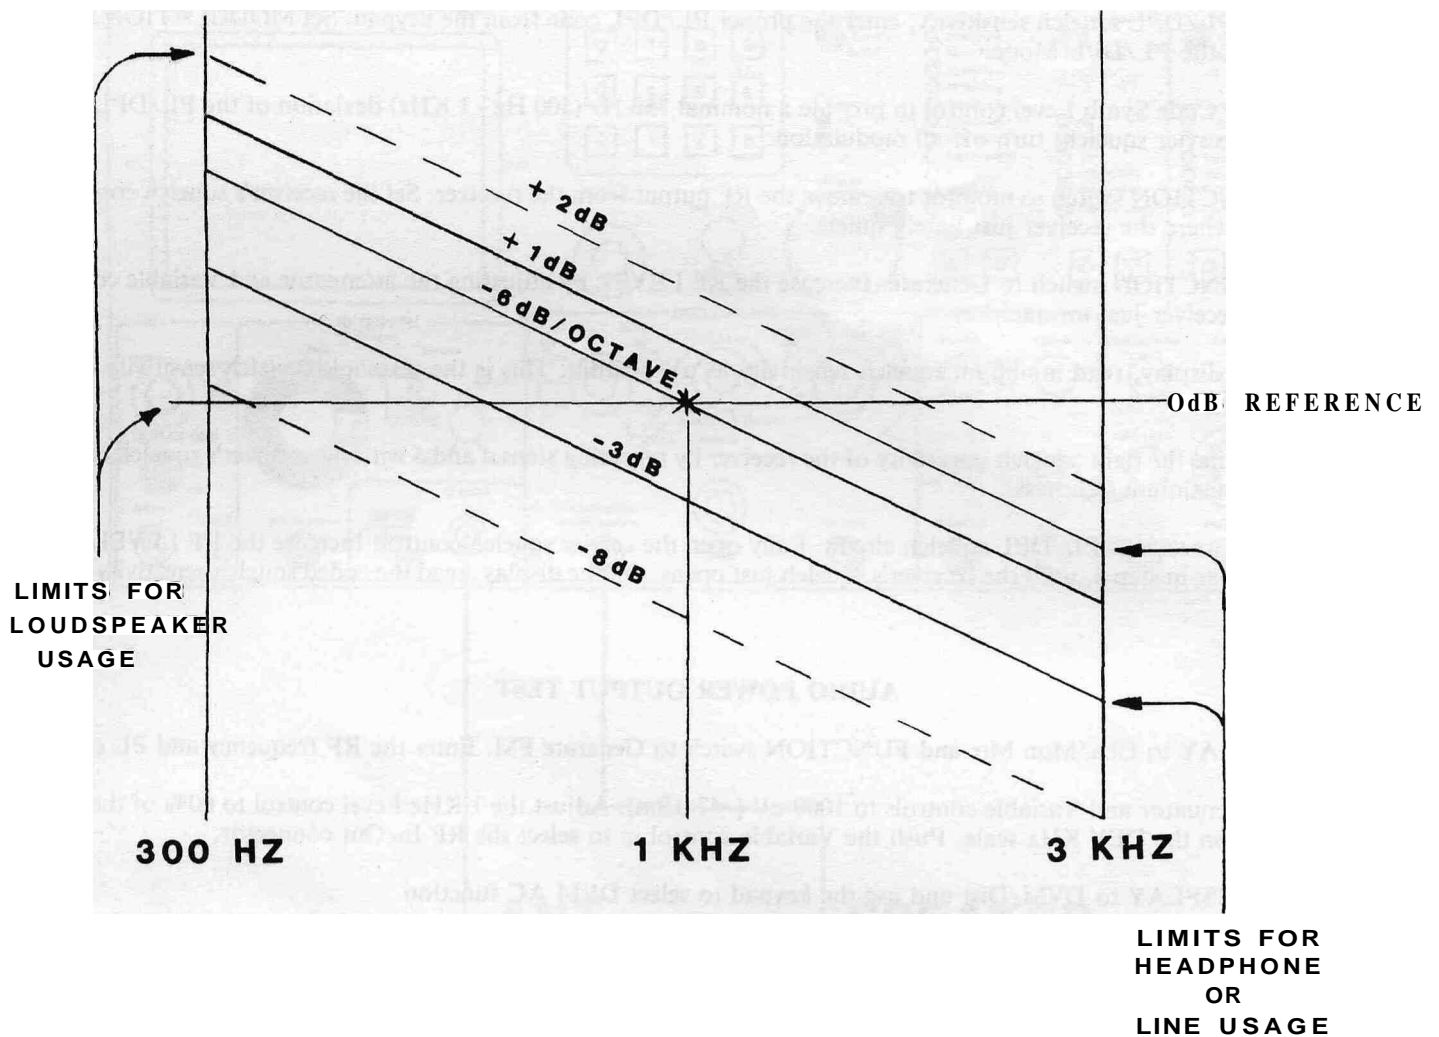

FIGURE 4-4. AUDIO FREQUENCY RESPONSE; EIA STANDARD RS-204C
10. Add or subtract the 1 KHz reference value from each reading taken in step 7. Plot the resulting values on a curve and compare them with the 6 dB per octave curve in your receiver's Service Manual or with the standard EIA specification RS-204C, as shown in figure 4-4,